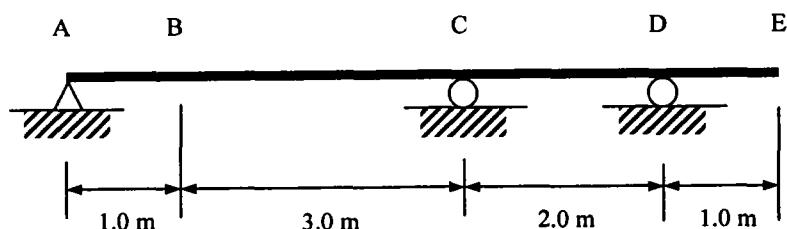

Figure 7 / Rajah 7
6. Figure 7 shows a continuous beam with pinned support at A while roller support at C and D. Assume EI is constant.